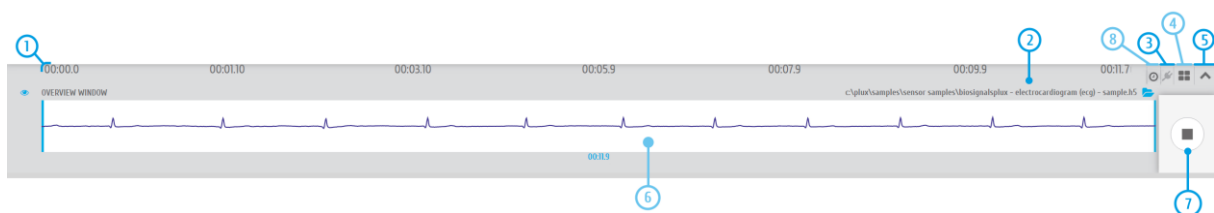

Figure 98: Control bar.
- Time axis (x-axis; 1 in Figure 98)
- File information and access to open file dialog (2 in Figure 98)
- Access *OpenSignals (r)evolution* add-ons (3 in Figure 98)
- Multi-channel visualization modes (4 in Figure 98)
- Unhide hidden channels (5 in Figure 98)
- Overview window (x-axis adjustments; 6 in Figure 98)
- Return to *OpenSignals*' main interface (7 in Figure 98)
- Switch Time-axis (new functionality; 8 in Figure 98)